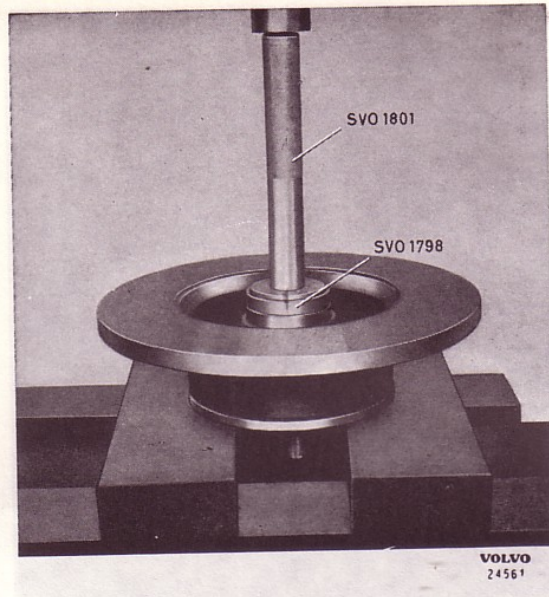

Fig. 31. Fitting the sealing ring
7. Press grease into the bearings with the help of a greaser. If such is not available, pack the bearings with as much grease as possible by hand between the holder and bearing inner ring. Also coat the outsides of the bearings with grease and on the outer rings pressed into the hub. Fill the recess in the hub with grease all round and up to the smallest diameter on the outer ring for the outer bearing, see Fig. 32. Place the inner bearing in position in the hub. Press in the sealing ring with drift SVO 1798 and standard handle SVO 1801 (Fig. 31).